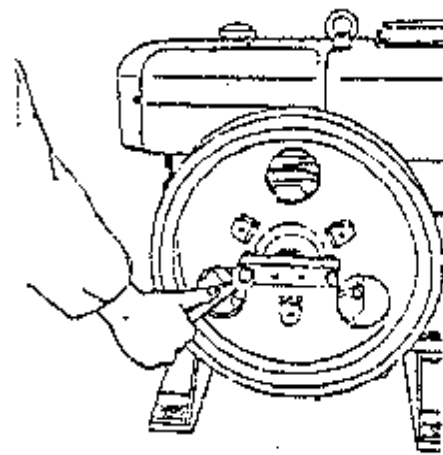
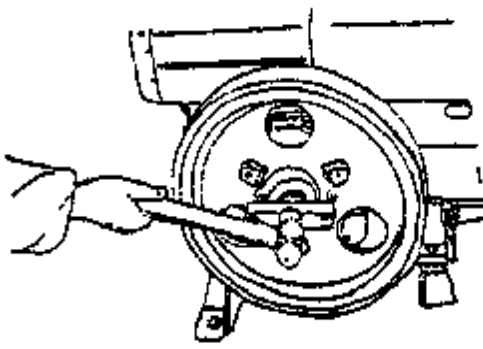

Fig. 3 Removing the flywheel by means of the puller
Fig. 4 Knocking the center of the bridge of the puller by means of a hammer.
4. Pull out the flywheel by means of the puller. A hammer may be used to knock the center of the bridge of the puller if the flywheel is difficult to pull out (Fig. 3, Fig. 4).